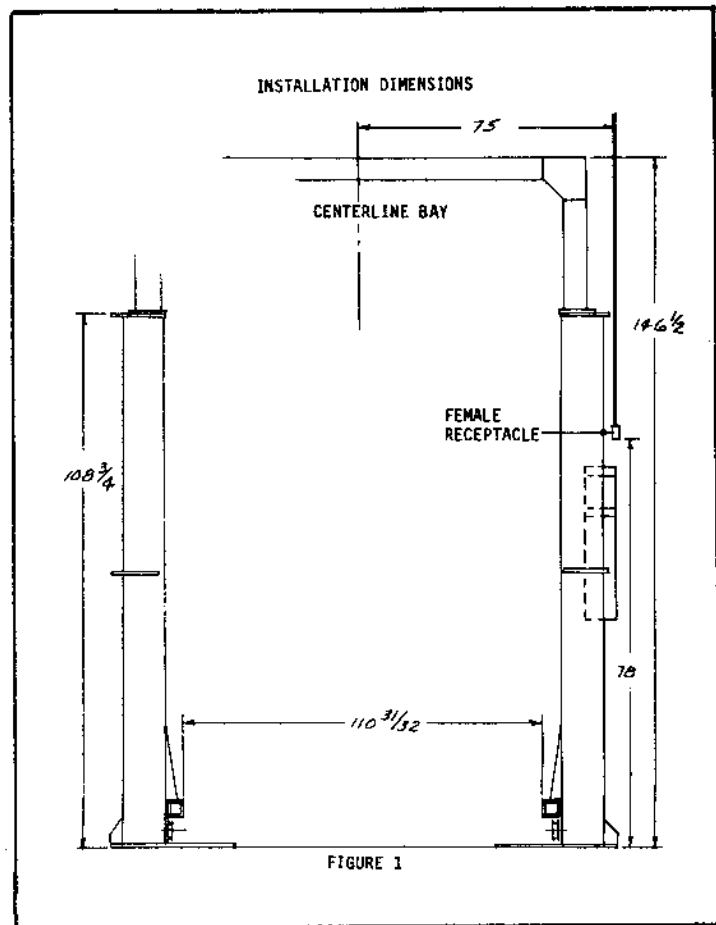

FIGURE 1
1. Check height of building at lift site to determine if there is sufficient floor to ceiling height. (See Fig. 1). The absolute minimum is $147 \frac{3}{8}$ " to clear lift. Keep in mind pipes, duct work, overhead doors, etc. **NOTE:** Power unit can be mounted on front side of RH post or rear side of LH post.